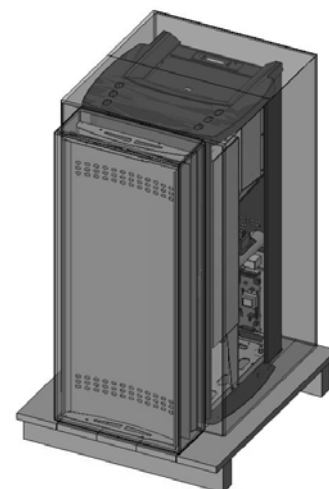

Figure 1 – Example of packaging stove + steel sides (Ego stove)
- It contains the stove and the steel sides with the profiles (Fig.1)